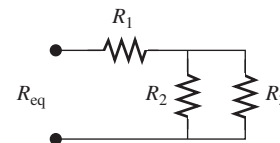

FIGURE P3.4 Circuit for Problem 3.4.
3.4 (B) Find R_{eq} in terms of R_1 , R_2 , R_3 in Figure P3.4.